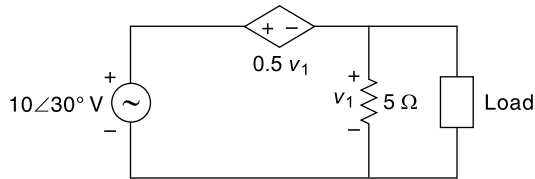

Fig. 6.29 Circuit of Ex. 6.28
6.28 Find Thevenin's equivalent circuit across the load in the network shown in Fig. 6.29.